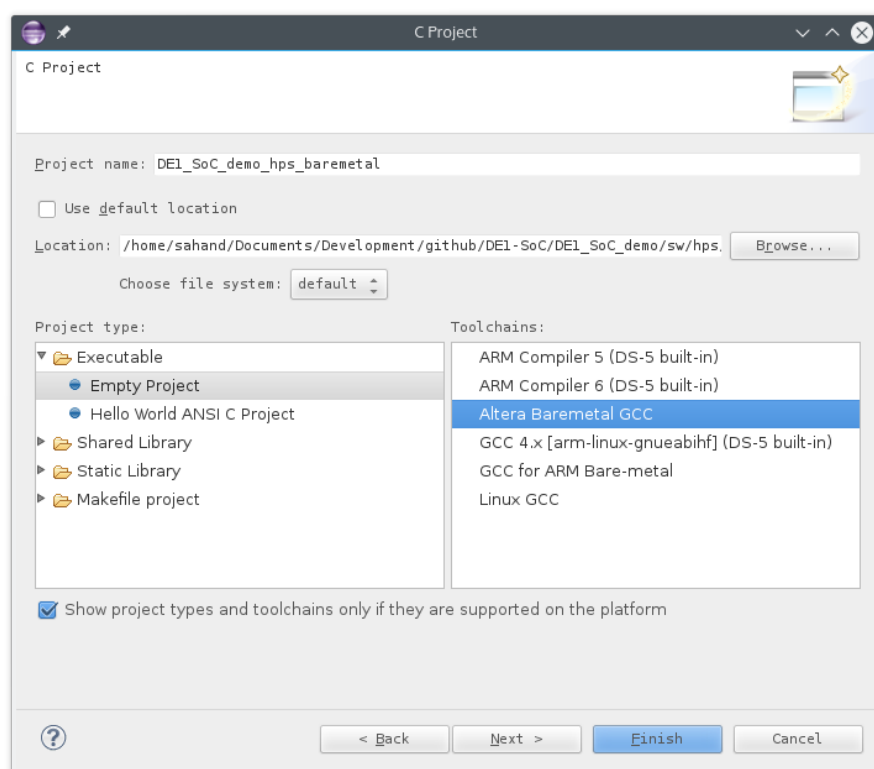

Figure 8-30. New C Project Dialog
- f. You should have something similar to Figure 8-30. Then, press the “Finish” button to create the project.